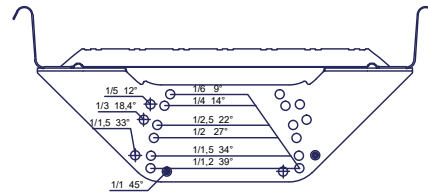

figure 1
- The most common roof inclinations and corresponding hole placements are demonstrated in figure 1. The roof walkway should be in horizontal position after final installation.